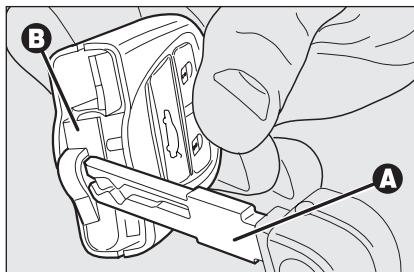

fig. 9
- remove the snap-fitted case **B-fig. 9** (red) by levering with the metal insert **A** of the electronic key in the point shown in the figure;